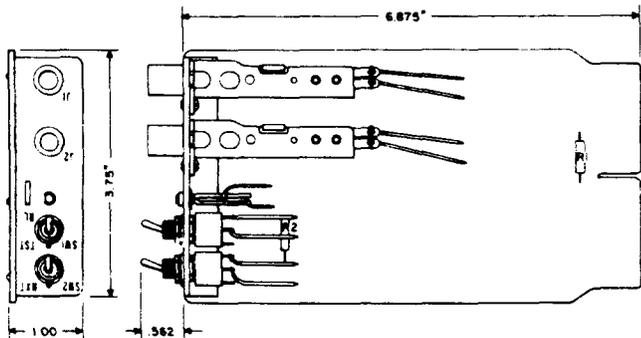

Fig. 4—791A Balance Tester Tool
**2.10 791A:** The 791A balance tester tool (Fig. 4) is used on the 1ESS switch to provide test access for 4-wire, 2-way trunk circuits with scanner wire options.